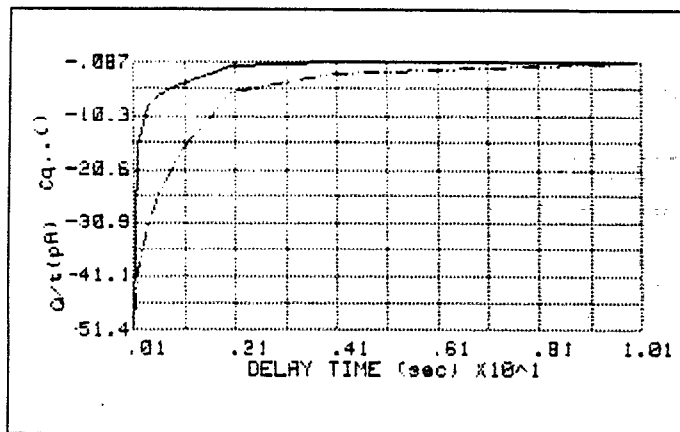

Figure 3-19. Q/t and C_q vs. Delay Time Example
9. Once all points have been taken, press "G" to generate the Q/t and C_Q vs. t_{DELAY} graph, an example of which is shown in Figure 3-19. Note that both Q/t and C_Q will be automatically scaled along the Y axis of the graph. If desired, you can generate a hard-copy graph by using "DUMP GRAPHICS" to a compatible printer.